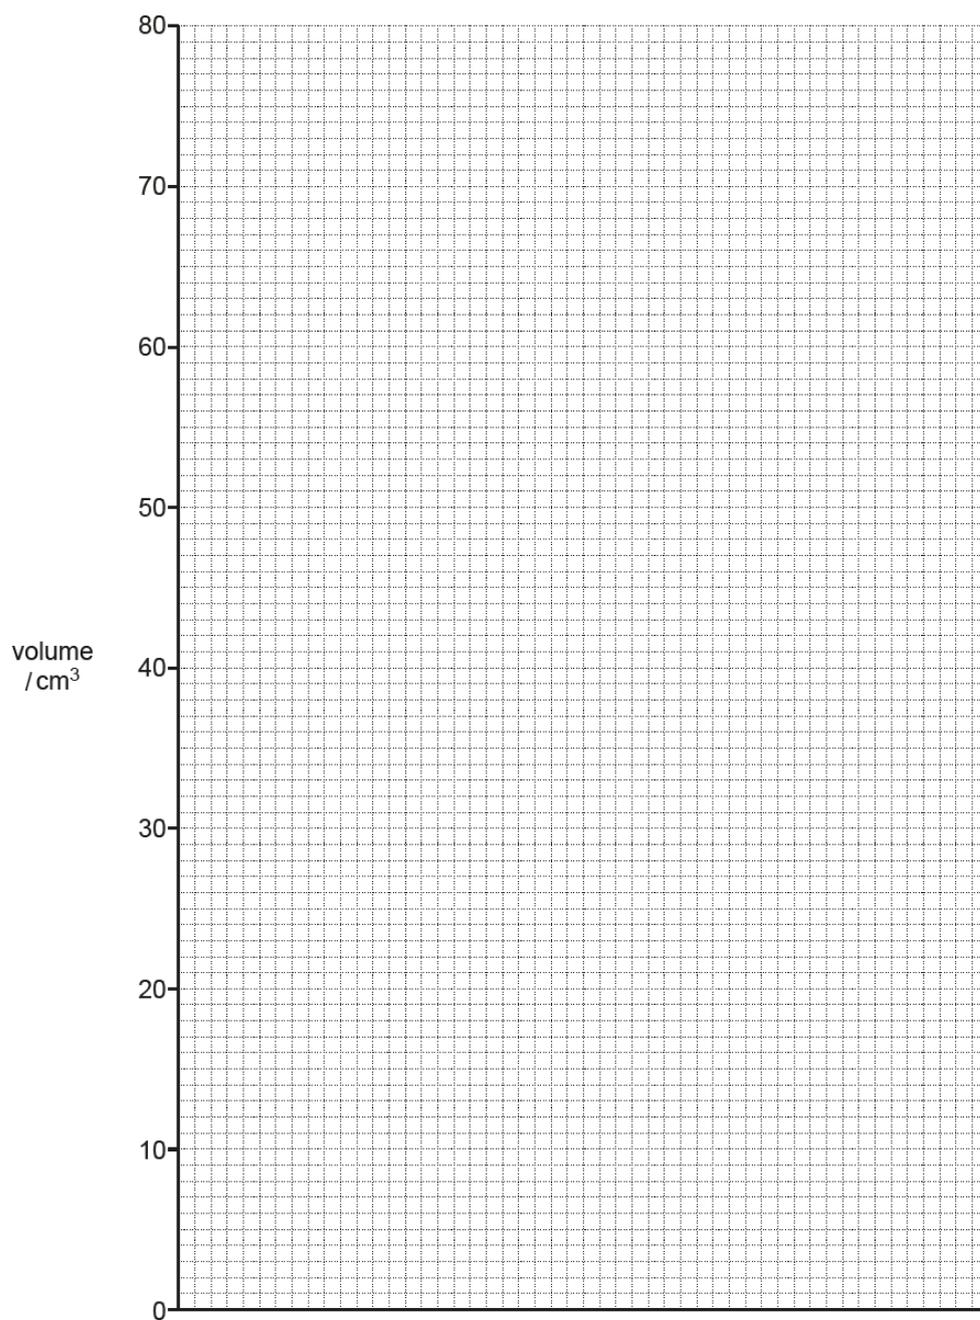

Fig. 4.1
(i) On the graph paper in **Fig. 4.1**, label the x axis **and** plot the results in **Table 4.1**. [1]
- (ii) Circle any anomalous results present in the graph you have drawn in **Fig. 4.1**. [1]
- (iii) Draw a best-fit smooth curve on the graph you have drawn in Fig. 4.1. [1]
On your graph in Fig. 4.1 sketch the curve you would expect in this experiment. [2]